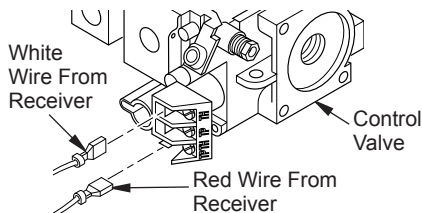

Figure 16 - Connecting Wires
4. Connect wires to control valve at the TPTH and TH locations as shown in Figure 16. **Note:** Make sure excess wire does not interfere with burner or pilot.